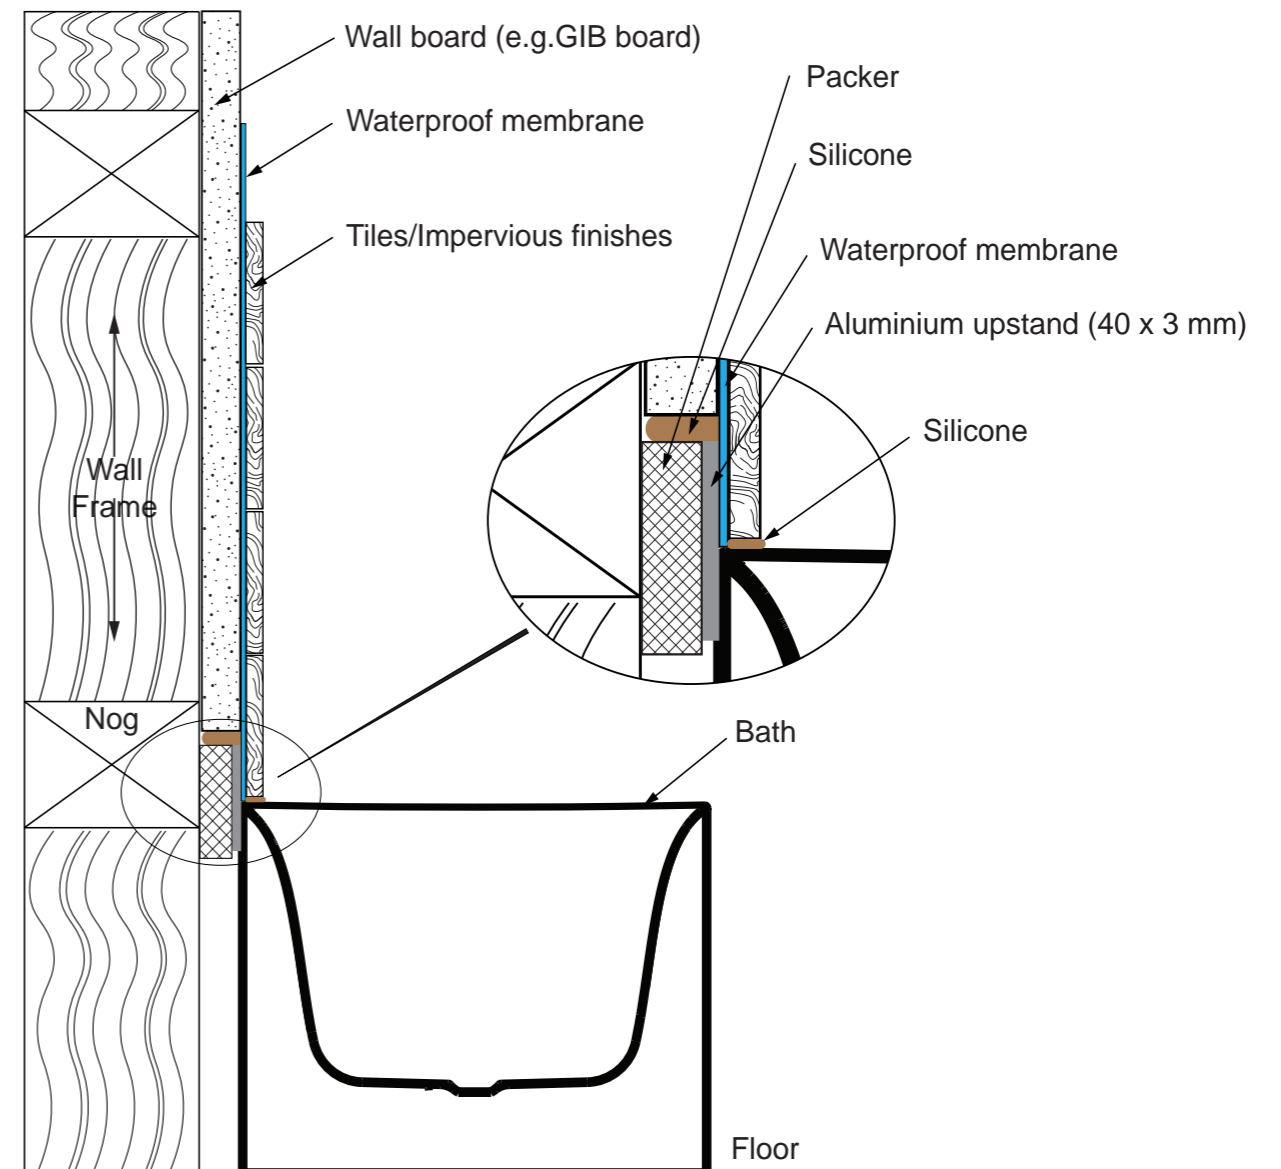

Figure 1
- 1). Install the bath with upstand to the wall as shown in figure 1.